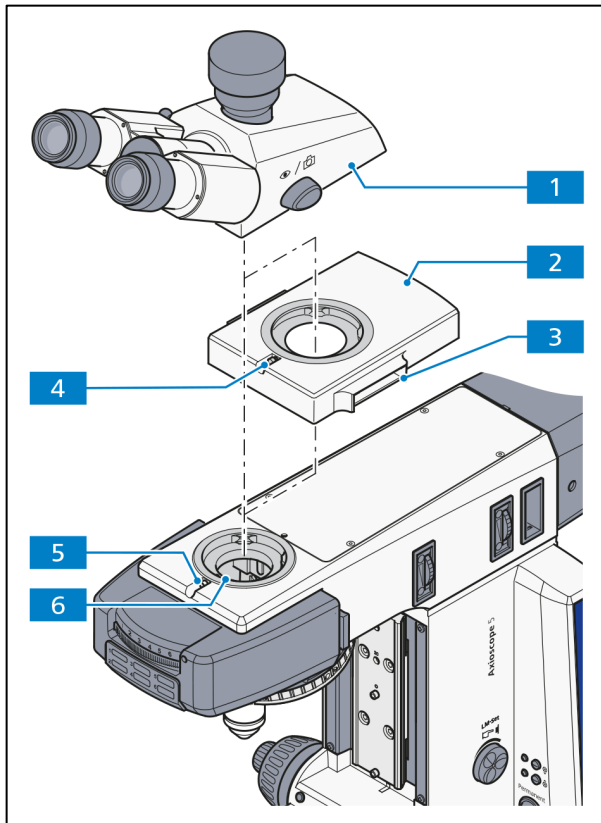

Fig. 3-39 Mounting the binocular tube with intermediate plate
- Loosen the screw (Fig. 3-39/5) with the Allen wrench (AF 3) and lift off the tube (Fig. 3-39/1).
- Insert the intermediate plate (Fig. 3-39/2) with the dovetail ring into the stand socket (Fig. 3-39/6), adjust it, then fasten it with the Allen screw (Fig. 3-39/4).
- Insert the analyzer slider into the slider slot (Fig. 3-39/3) if applicable.
- Slightly incline the binocular tube (Fig. 3-39/1) when inserting it into the intermediate plate, adjust it and fasten it with the Allen screw (Fig. 3-39/4).